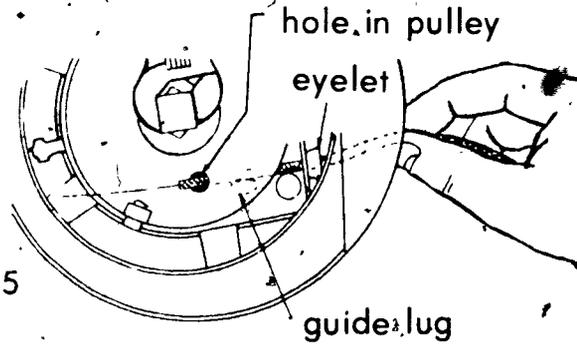

FIGURE 5
- M. Thread rope through rope eyelet in housing and out pulley hole (Figure 5)